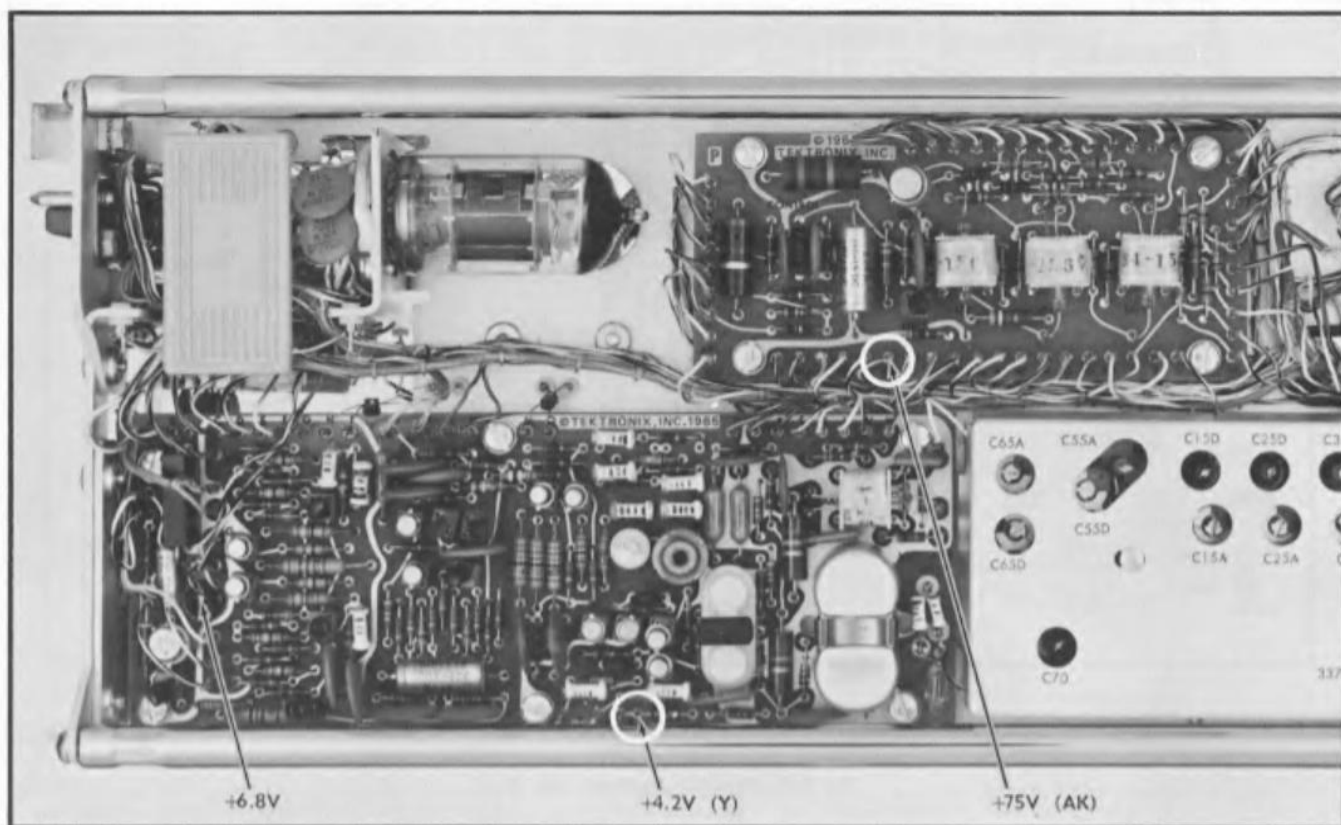

Fig. 6-4. Power Supply test points.
b. Measure the voltage at each of the test points shown in Fig. 6-4. The meter must be correct to within ±1%, or have a scale that is corrected to ±1% at the voltages listed. Tolerances are listed in Table 6-1.
c. Measure the ripple voltage on the 4.2- and 75-volt supplies with the test oscilloscope and 1X probe. Use the test points shown in Fig. 6-4. 20 mV equals four divisions, and 10 mV equals two divisions on the test oscilloscope crt.